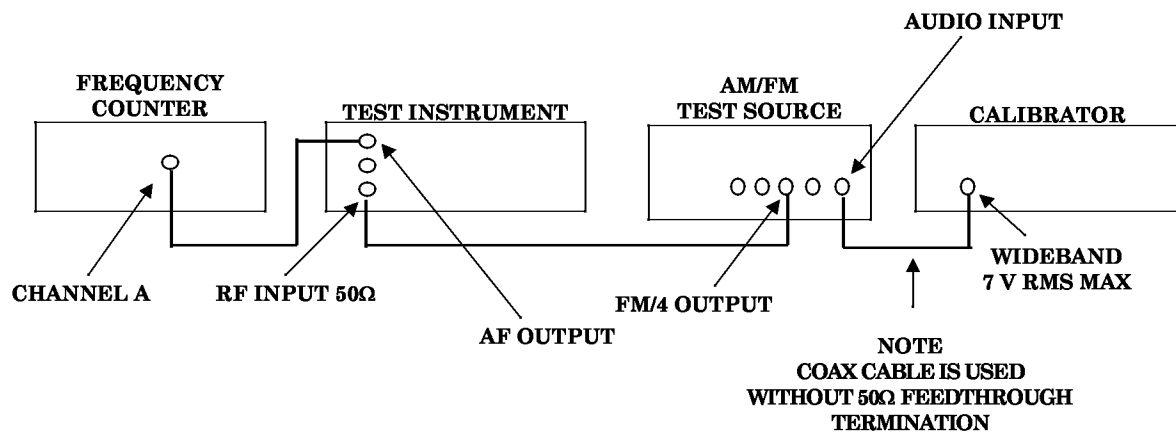

Figure 7. AF accuracy.
- (1) Connect equipment as shown in figure 7.